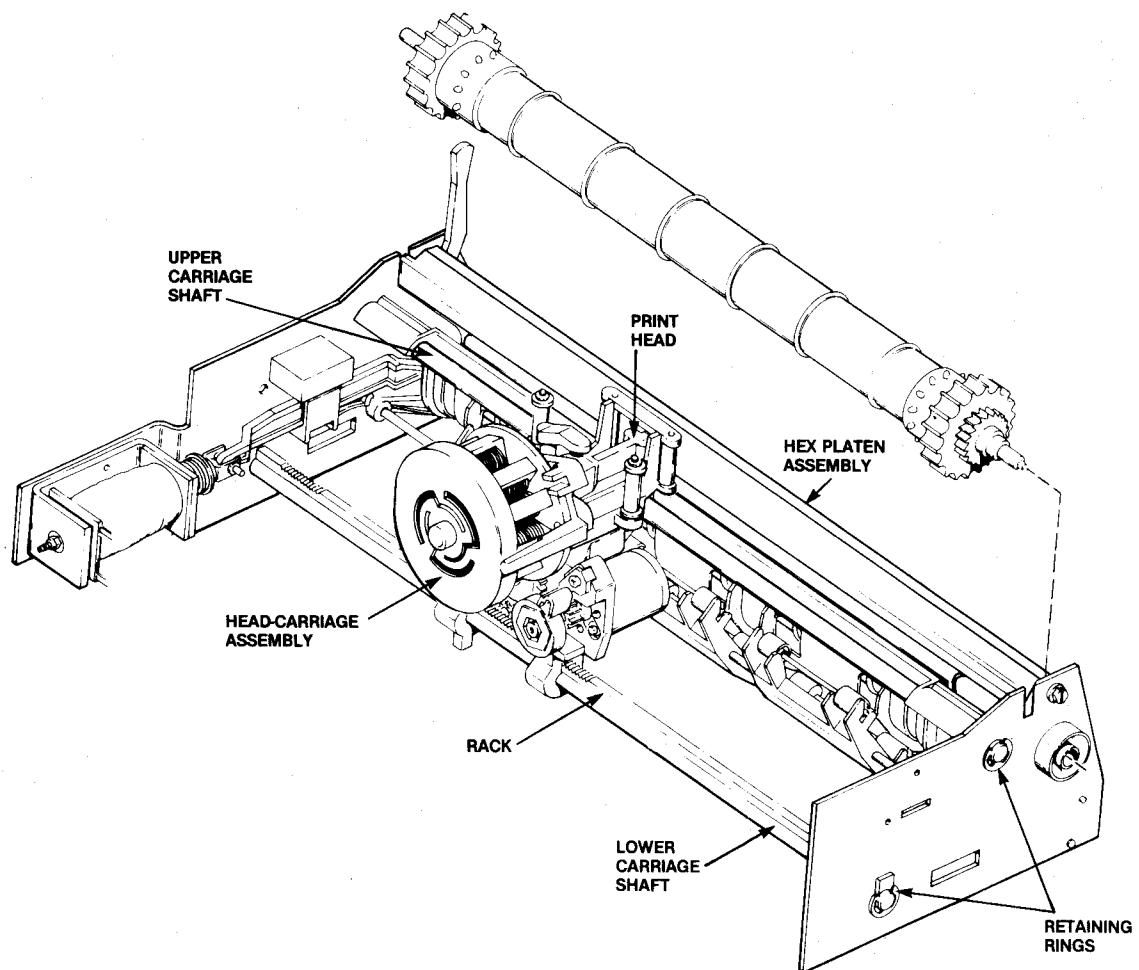

Figure 6-6. HEAD-CARRIAGE ASSEMBLY REPLACEMENT
6.8 HEAD-CARRIAGE ASSEMBLY (See Figure 6-6)